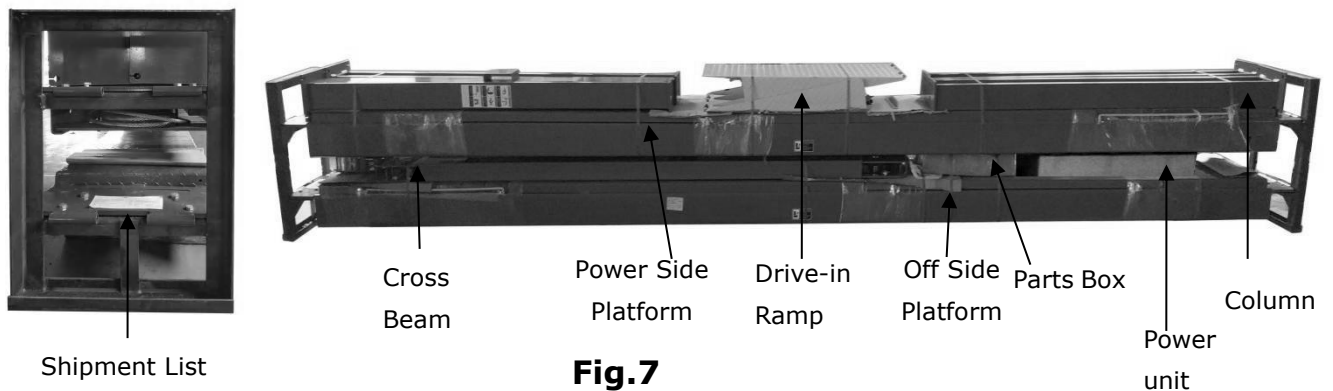

Fig.7
3. Remove the package, check the parts according to the shipment parts list. (See Fig. 7).